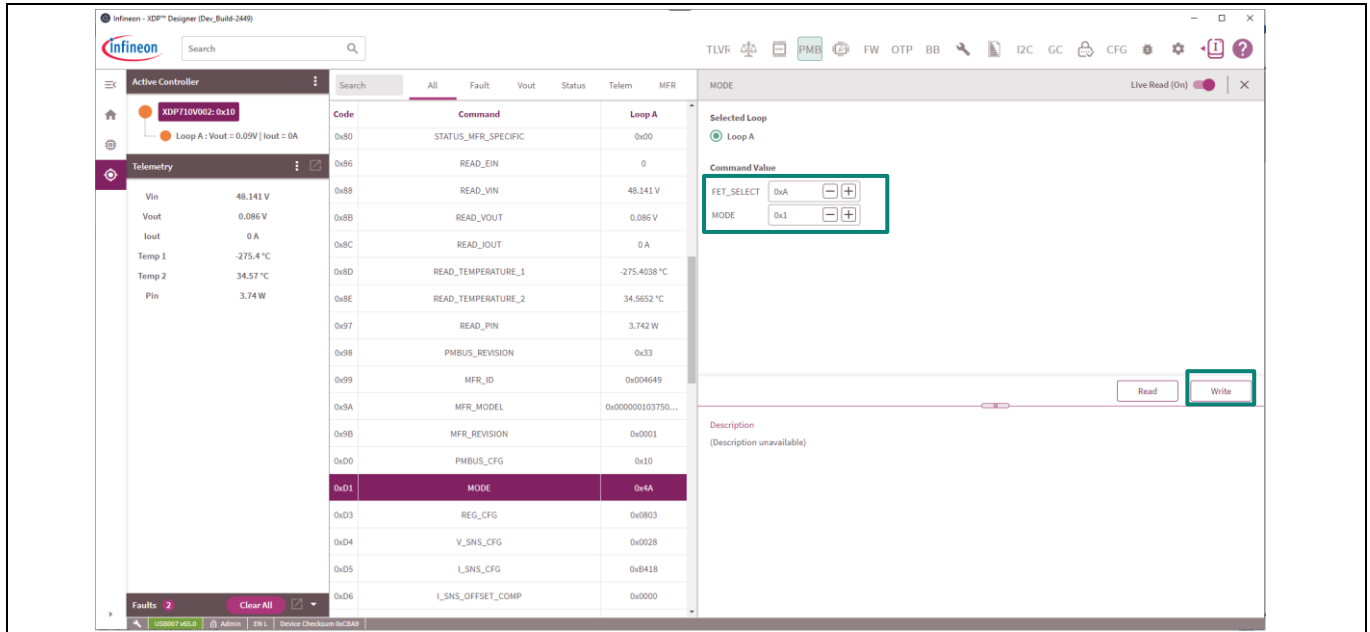

Figure 26 FET selection in FDM
- The board has FET **IPT015N10N5** populated and to select this FET, the FET_SELECT bit should be modified to 0xA, then click **Write** as shown in Figure 26.